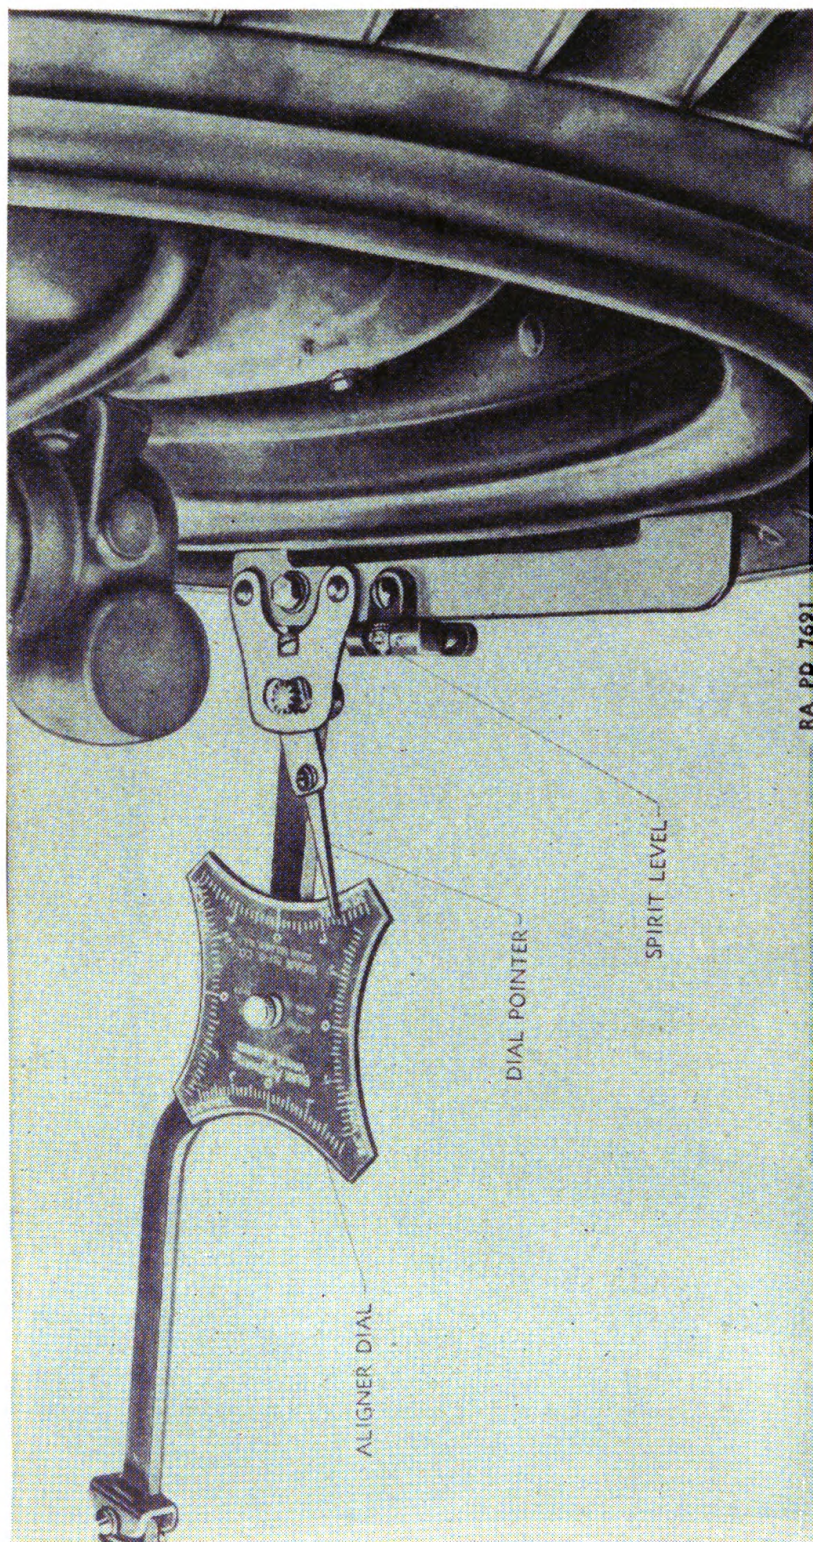
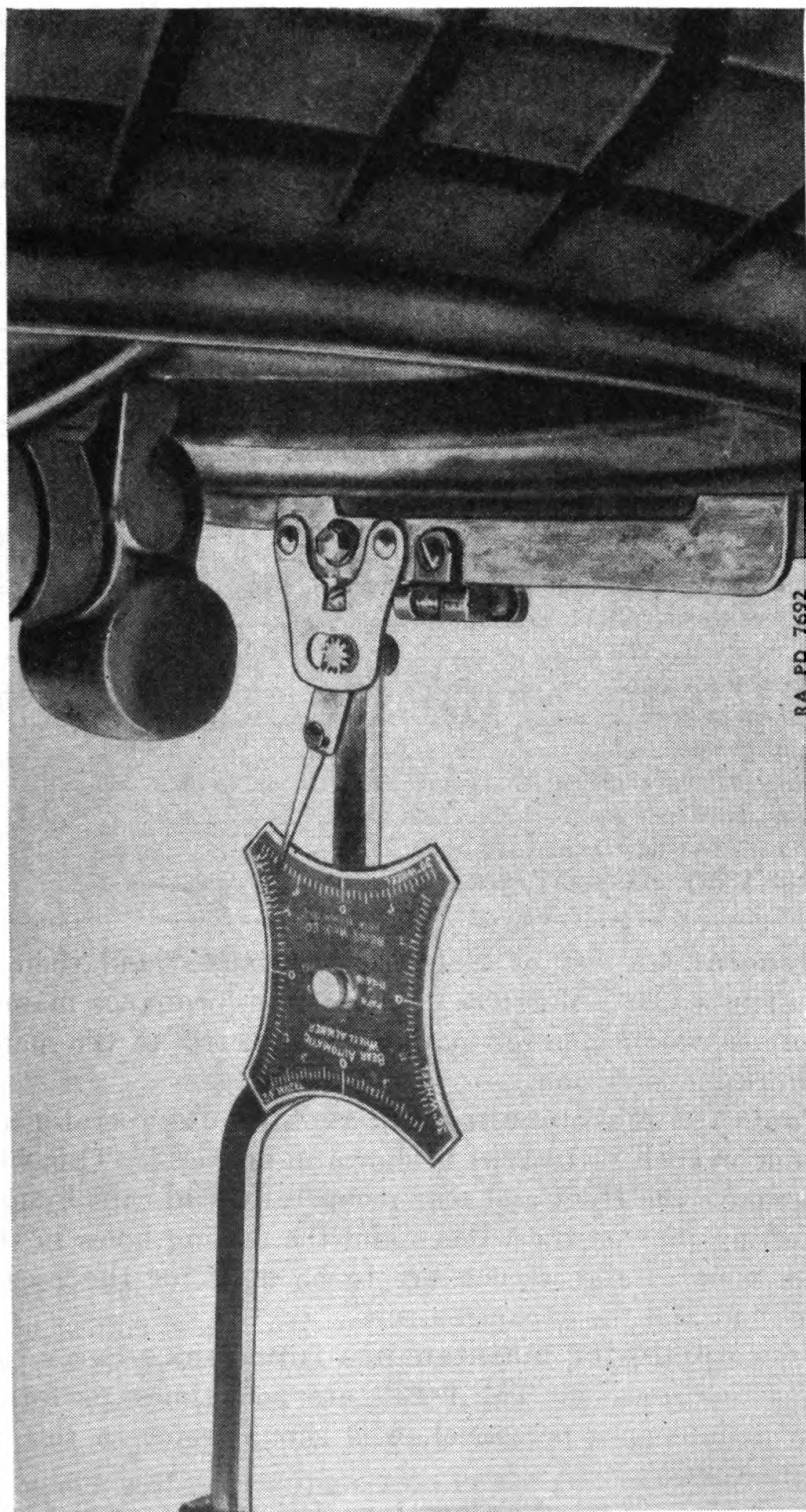

FIGURE 11.—Scale reading showing  $1\frac{3}{8}$  inches exaggerated toe-in.
FIGURE 12.—Scale reading showing 1 3/8 inches exaggerated toe-out.
(2) If the combined toe-in is greater than  $\frac{1}{4}$  inch ( $\frac{1}{8}$  inch for each wheel) as shown on figure 11, press the wheels apart and watch the pointer; this will show the amount of play in the bushings and tie rod connections. Do likewise if a combined toe-out registers, as shown on figure 12.